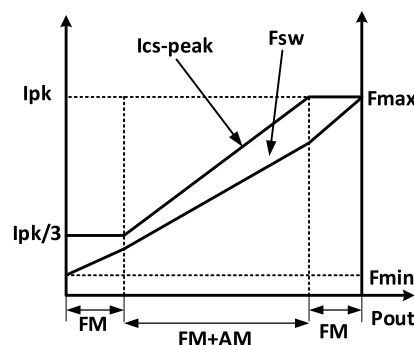

Fig.8. FM mode and AM mode
As shown in figure 8, in order to meet the demanding requirements of average efficiency and standby power consumption, the G113XX-SX uses a combination of PFM control (FM) and PAM control (AM).